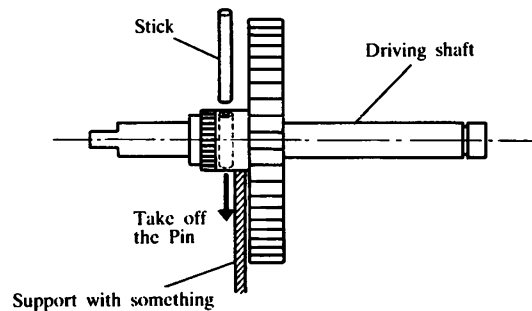

Fig. 19
- (2) Take out the Spring pin (AW4) by using the stick (diameter is about 3.0–3.8 m/m) and the hammer. The Gear 5 will come off the Driving shaft. (Refer to Fig. 19)